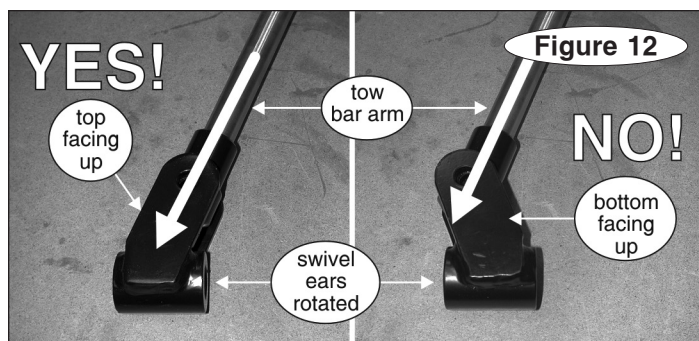

Figure 12
16. For earlier versions of these tow bars **only** (see the preceding step) – the swivel ears must be attached with the top facing up, as shown in Figure 12.